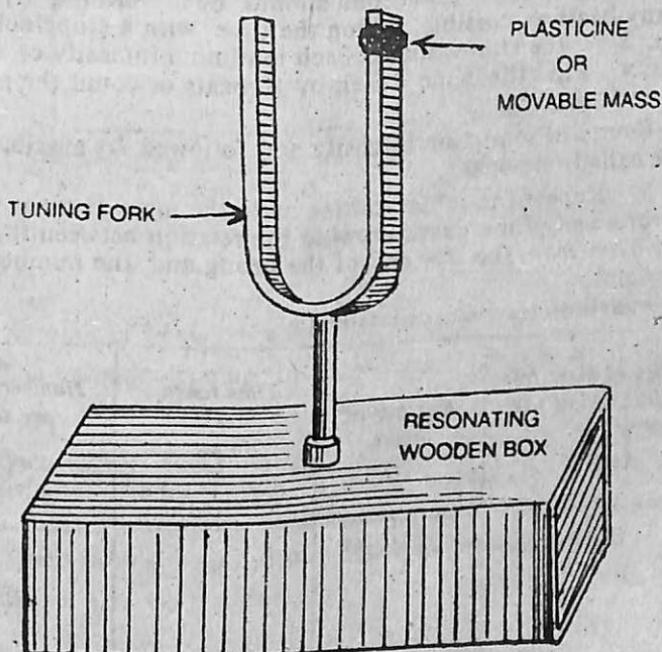

Fig. 40.2
- Take two tall tuning forks of the same frequency mounted on resonant wooden boxes. Make their frequencies slightly different by loading one by plasticine or wax or by tightly attaching a small load by adhesive tape so that it can be clamped at any part of the prong (Fig. 40.2).